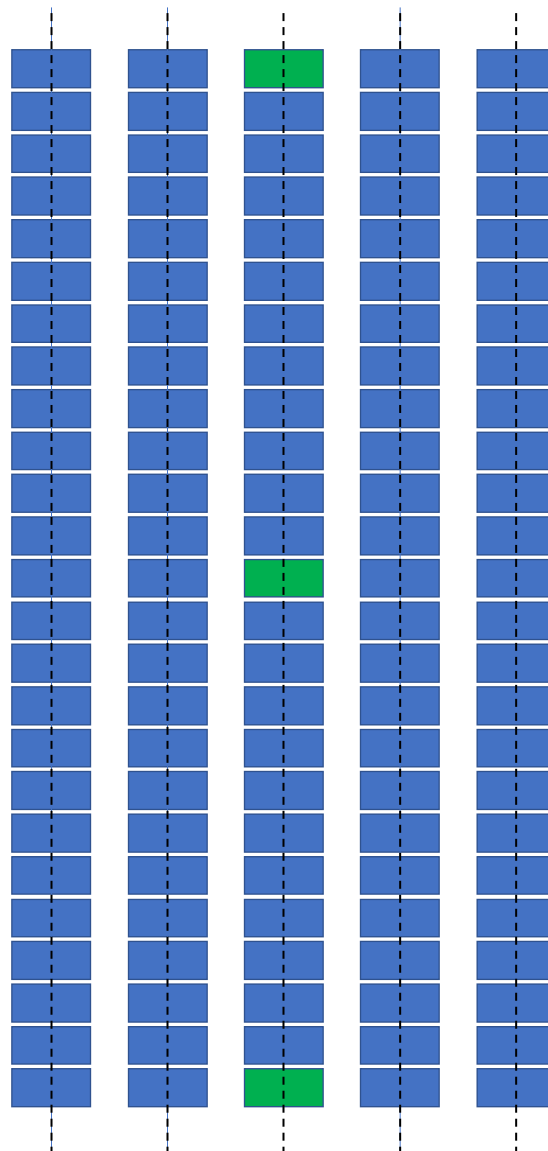

Figure 2. Field layout for IP Trackers. Front and rear irradiance is calculated for green modules. Gap between modules along the row is 2 mm
- 1-up Portrait: 5 rows, each with 25 modules (Figure 2)
- Average front and rear irradiance and module temperatures for the middle and end modules in the middle row (Figure 2 and Figure 4 shows these in green) for every hour